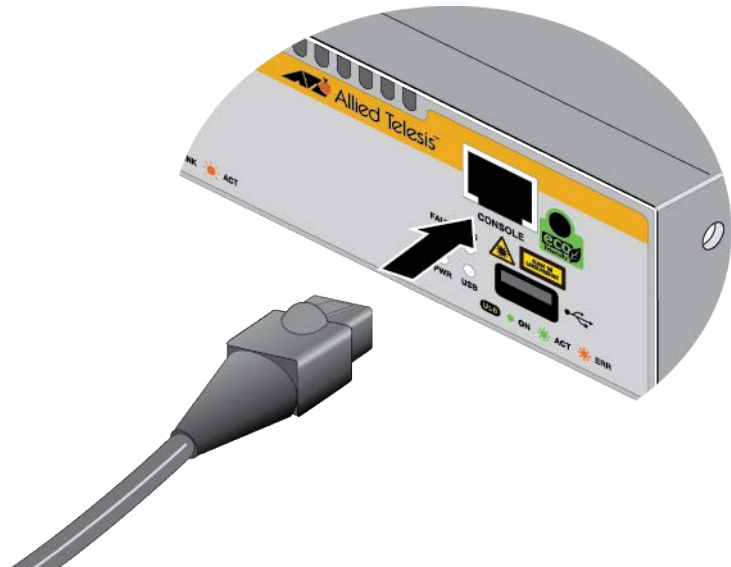

Figure 32. Connecting the Management Cable to the Console RS-232 Port
1. Connect the RJ-45 end of the management cable to the Console RS-232 port on the management panel. Refer to Figure 32.